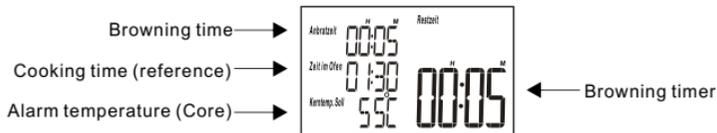

Fig.2 – Cooking information on RI 1
- Press **▶** to confirm, and all the cooking information (stand-by screen) will show on the transmitter screen. Fig.2 is an example of RI 1 (Note: To return to previous step, press **◀** button). It is now ready for the browning process (Note: If the user prefers to skip the browning process, press **▶** button again and move directly to the cooking process. For the instructions on Low Temperature Cooking, please refer to step viii).